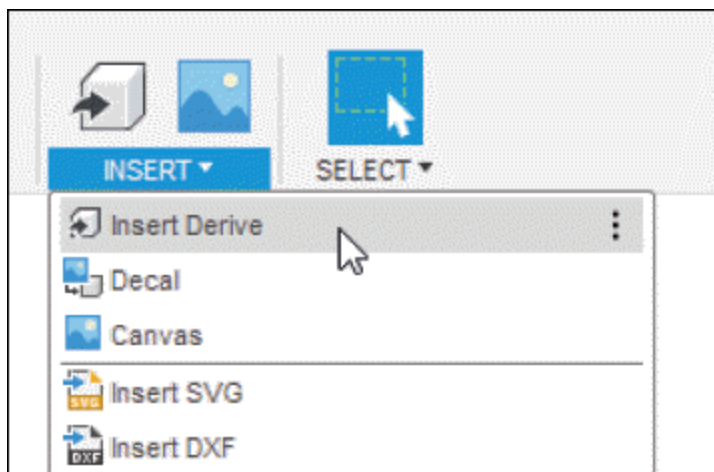
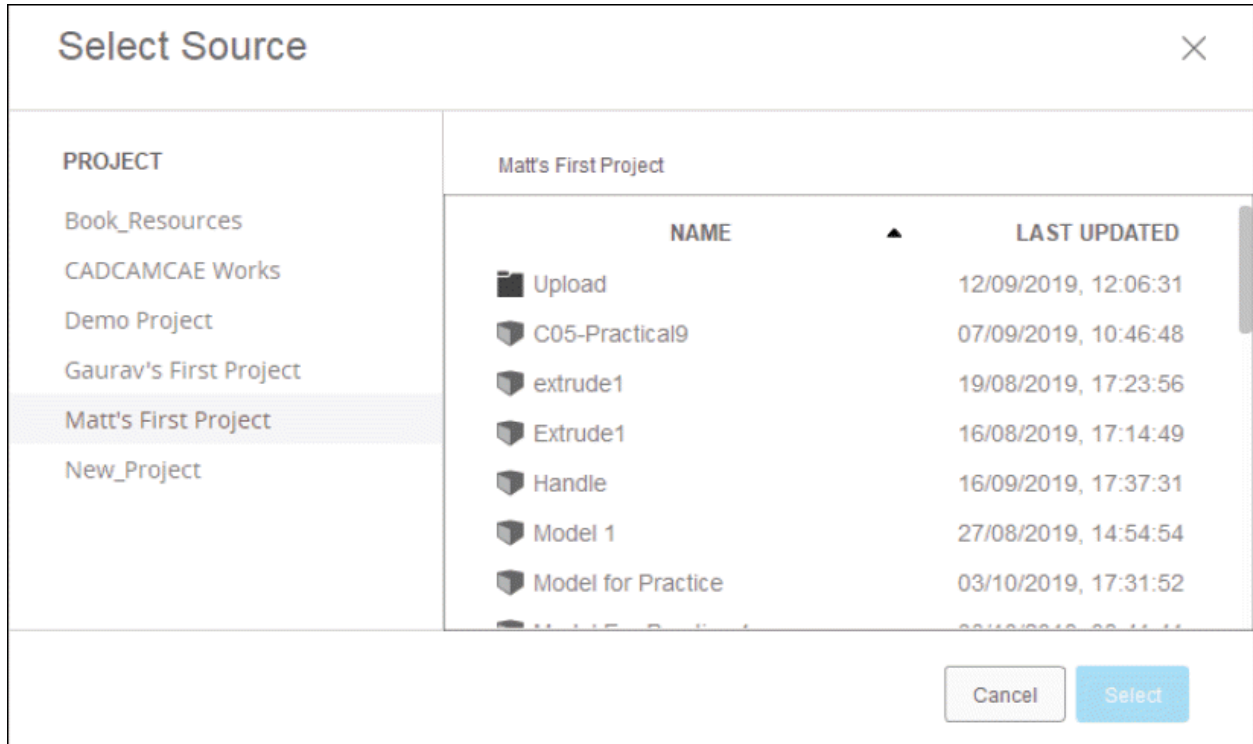

Figure-1. Insert Derive tool
Figure-2. Select Source dialog box
- Click on the **Insert Derive** tool of **INSERT** drop-down from **Toolbar**; refer to Figure-1. The **Select Source** dialog box will be displayed; refer to Figure-2.